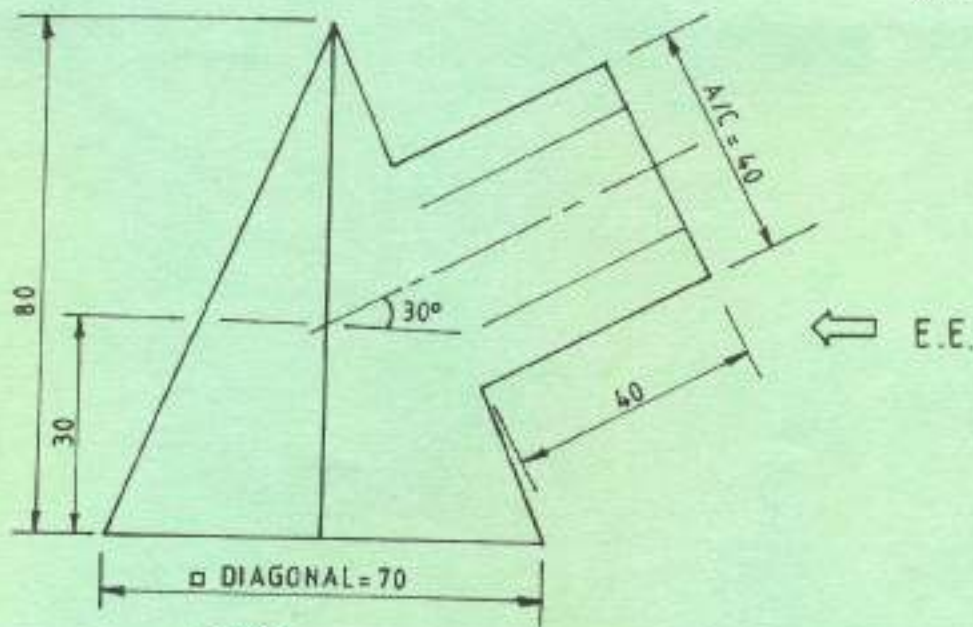

Fig. 6
5. Figure 6 shows a hexagonal prism intersecting a square pyramid. Draw the following in first angle projection.